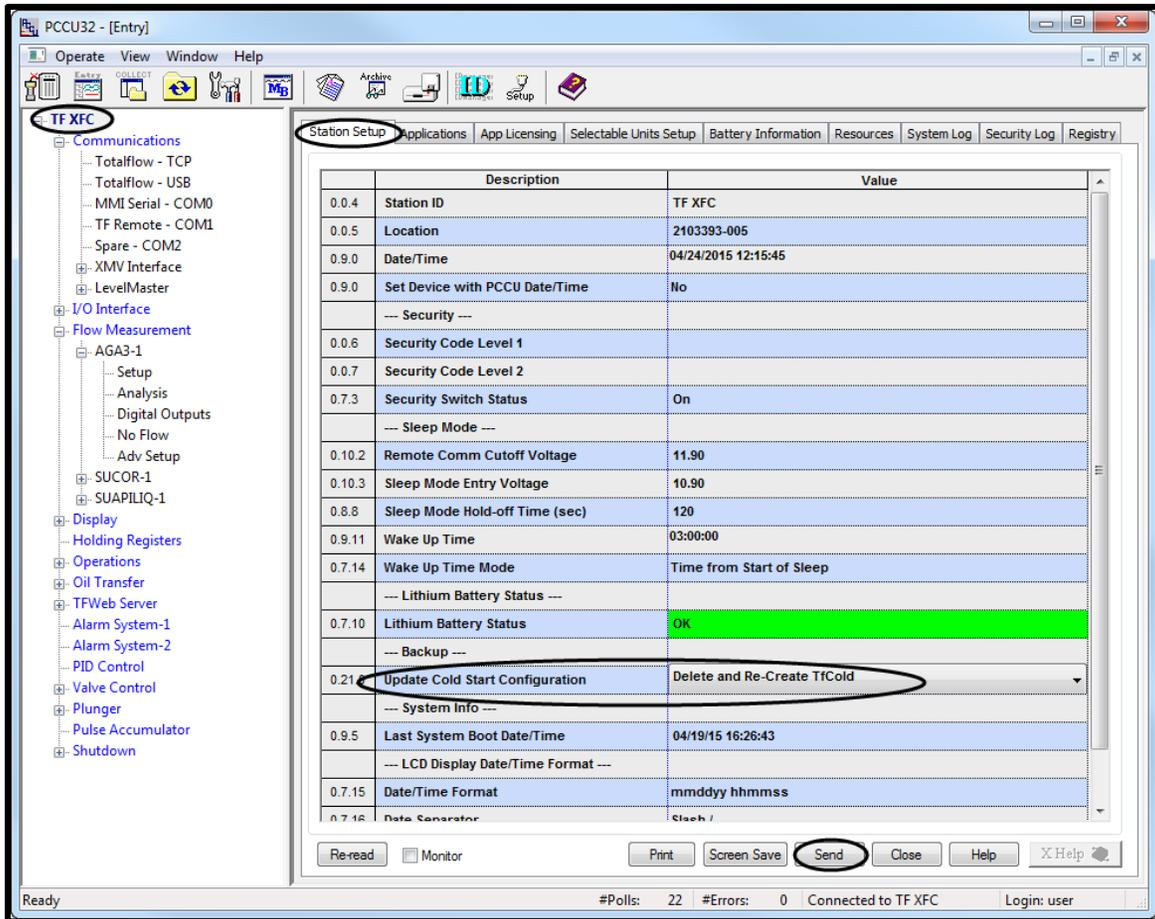

Figure 7: System Station Setup Screen
- In PCCU entry mode, go to "Station Setup" tab under the top tree node (Figure 7), on the "Update Cold Start Configuration" field choose "Delete and Re-Crete TfCold" and then "Send".